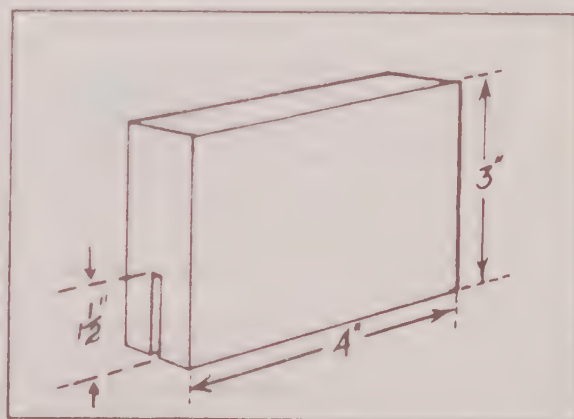

Figure 3-19 Aluminum Block with Saw Cut Notch
- (1) Standard 6' 4" cable.
- (2) Two 4' 8" cables.
- (3) Two straight beam search units of the same frequency (2.25MHz for this test).
- (4) Aluminum block with saw cut notch. (See Figure 3-19).